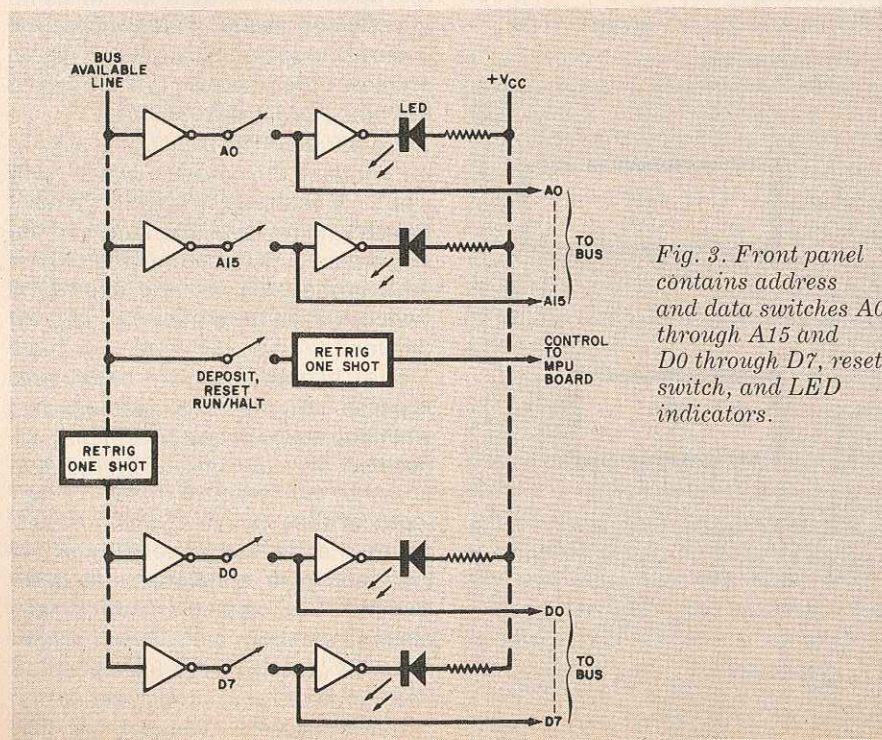

Fig. 3. Front panel contains address and data switches A0 through A15 and D0 through D7, reset switch, and LED indicators.
**Front Panel.** The front panel assembly contains the RUN/HALT switch, with a LED for each switch position; a reset switch with no LED indicator; and the ac power ON LED indicator (Fig. 3). The 16 ADDRESS switches and eight DATA switches each have their own LED indicator.